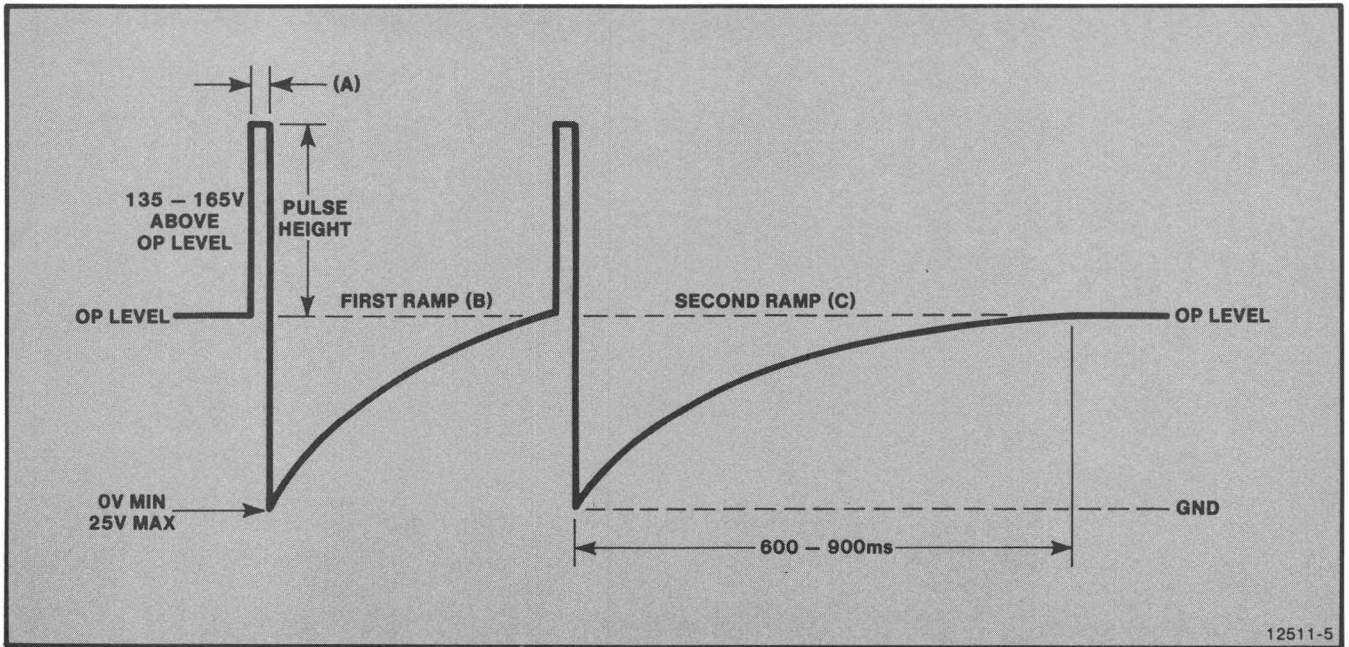
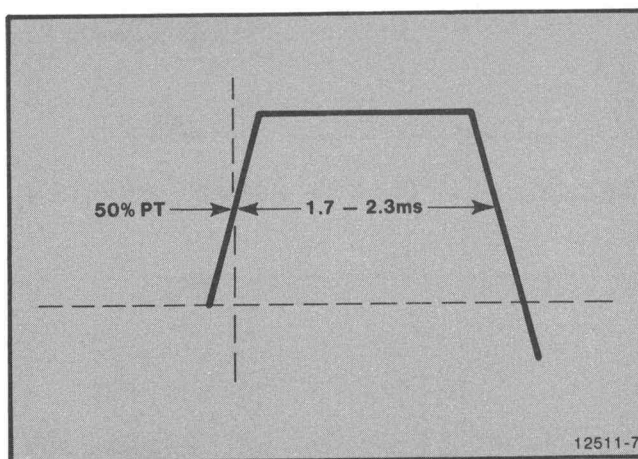

Figure 4-5. Target Erase Waveform.
Figure 4-7. Target Erase Pulse Waveform.
10. **Refer** to the target erase waveform (Figure 4-5) and do the following:
12. **Observe** the first ramp, shown as (b) in Figure 4-5.
16. **Observe** the pulse waveform shown in Figure 4-7. This waveform is also indicated as (a) in Figure 4-5.)